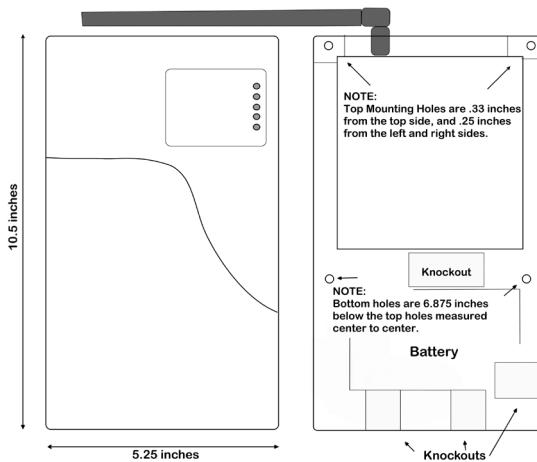

FIGURE 2: Inside & Outside Mounting Dimensions for the CDMA30
Use four (4) #6 screws and mount the unit using the four holes in the enclosure's plastic bottom. The CDMA30's dimensions are shown in Figure 2.